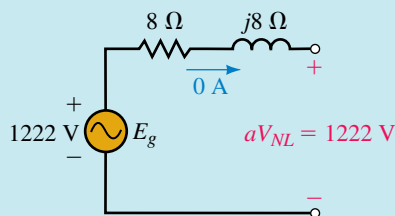

FIGURE 24-45 No-load equivalent: $aV_{NL} = E_g$.
- c. Now consider the no-load condition (Figure 24-45). Let V_{NL} be the no-load voltage. As indicated, $aV_{NL} = 1222 \text{ V}$. Thus, $V_{NL} = 1222/a = 1222/10 = 122.2 \text{ volts}$ and